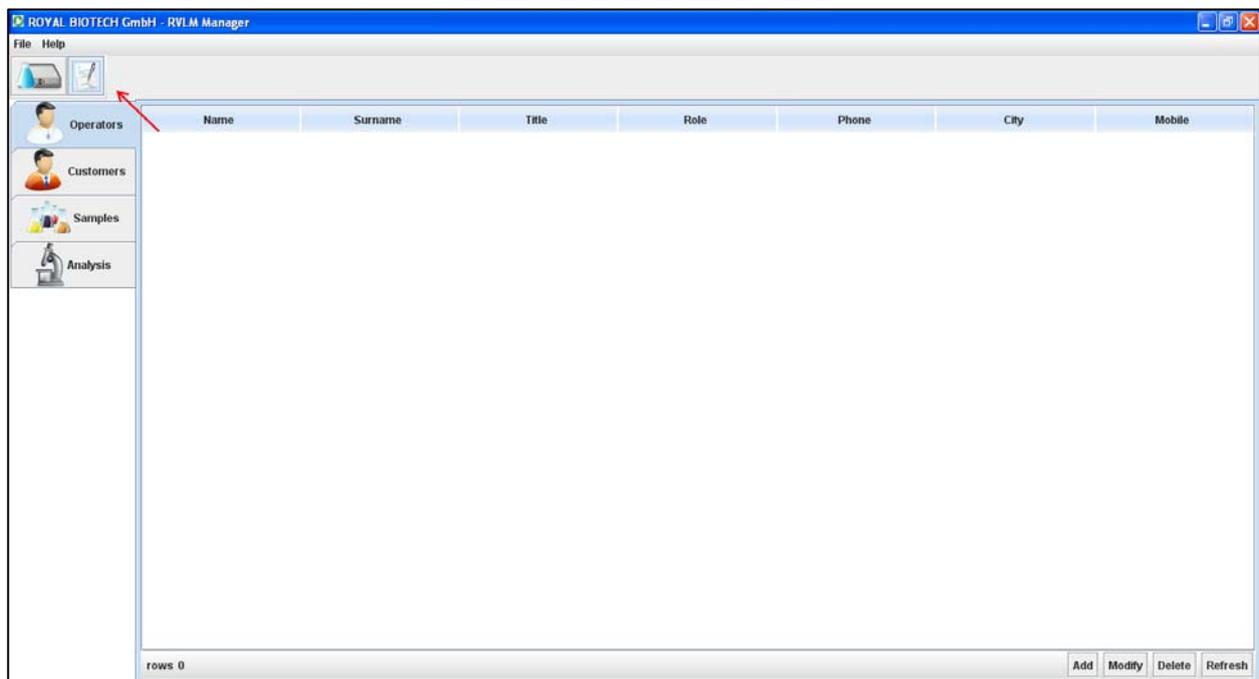

Fig. 17. RVL Manager – Database
- Click on “File” and then on “Database”, you can see and modify the information that you entered in the configuration phase (fig.17). **Note:** *you can also click on the “Layout data” button (red arrow) to open the Database.*